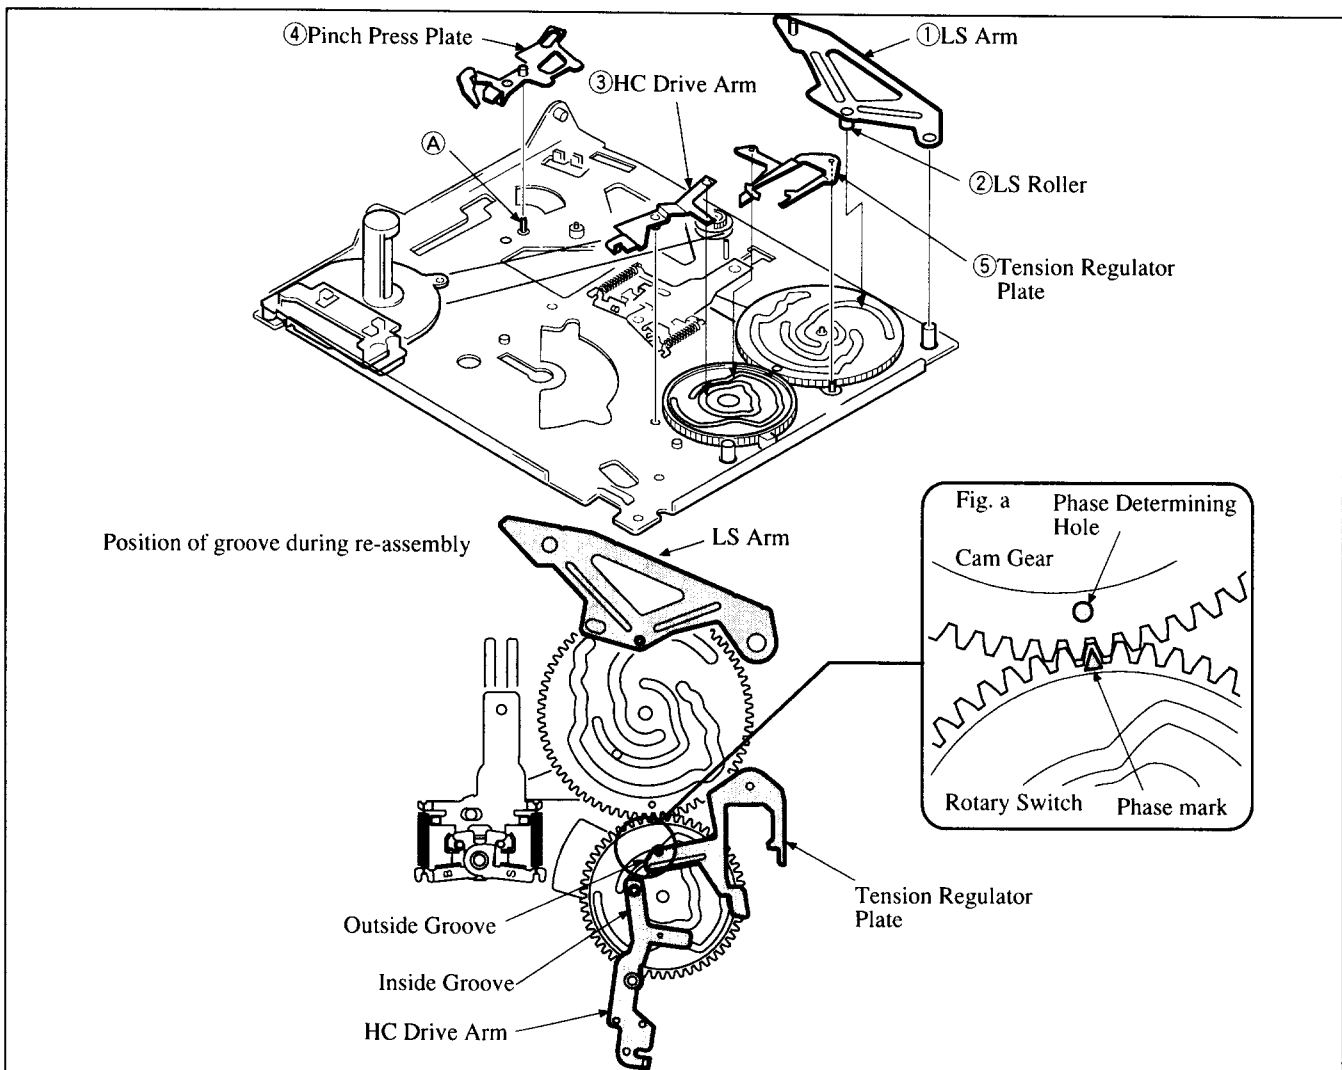

Fig. 19
- 1) Before attaching the Gear A (6), coat the Retainer Shaft (E) with grease SG-055G (Ref. No. J-13).
- 3) The HC Drive Arm is easy to drop. Confirm that it is attached referring to Fig. 19.
### 3-13. LS Arm, HC Drive Arm, Pinch Press Plate, Tension Regulator Plate (Refer to Fig. 19)